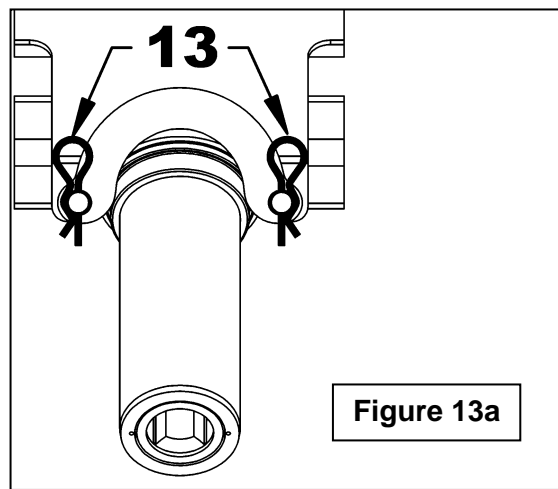

Figure 13a
**IMPORTANT:** The hairpins (Figure 13a, item 13) must be in the position shown in the figure.